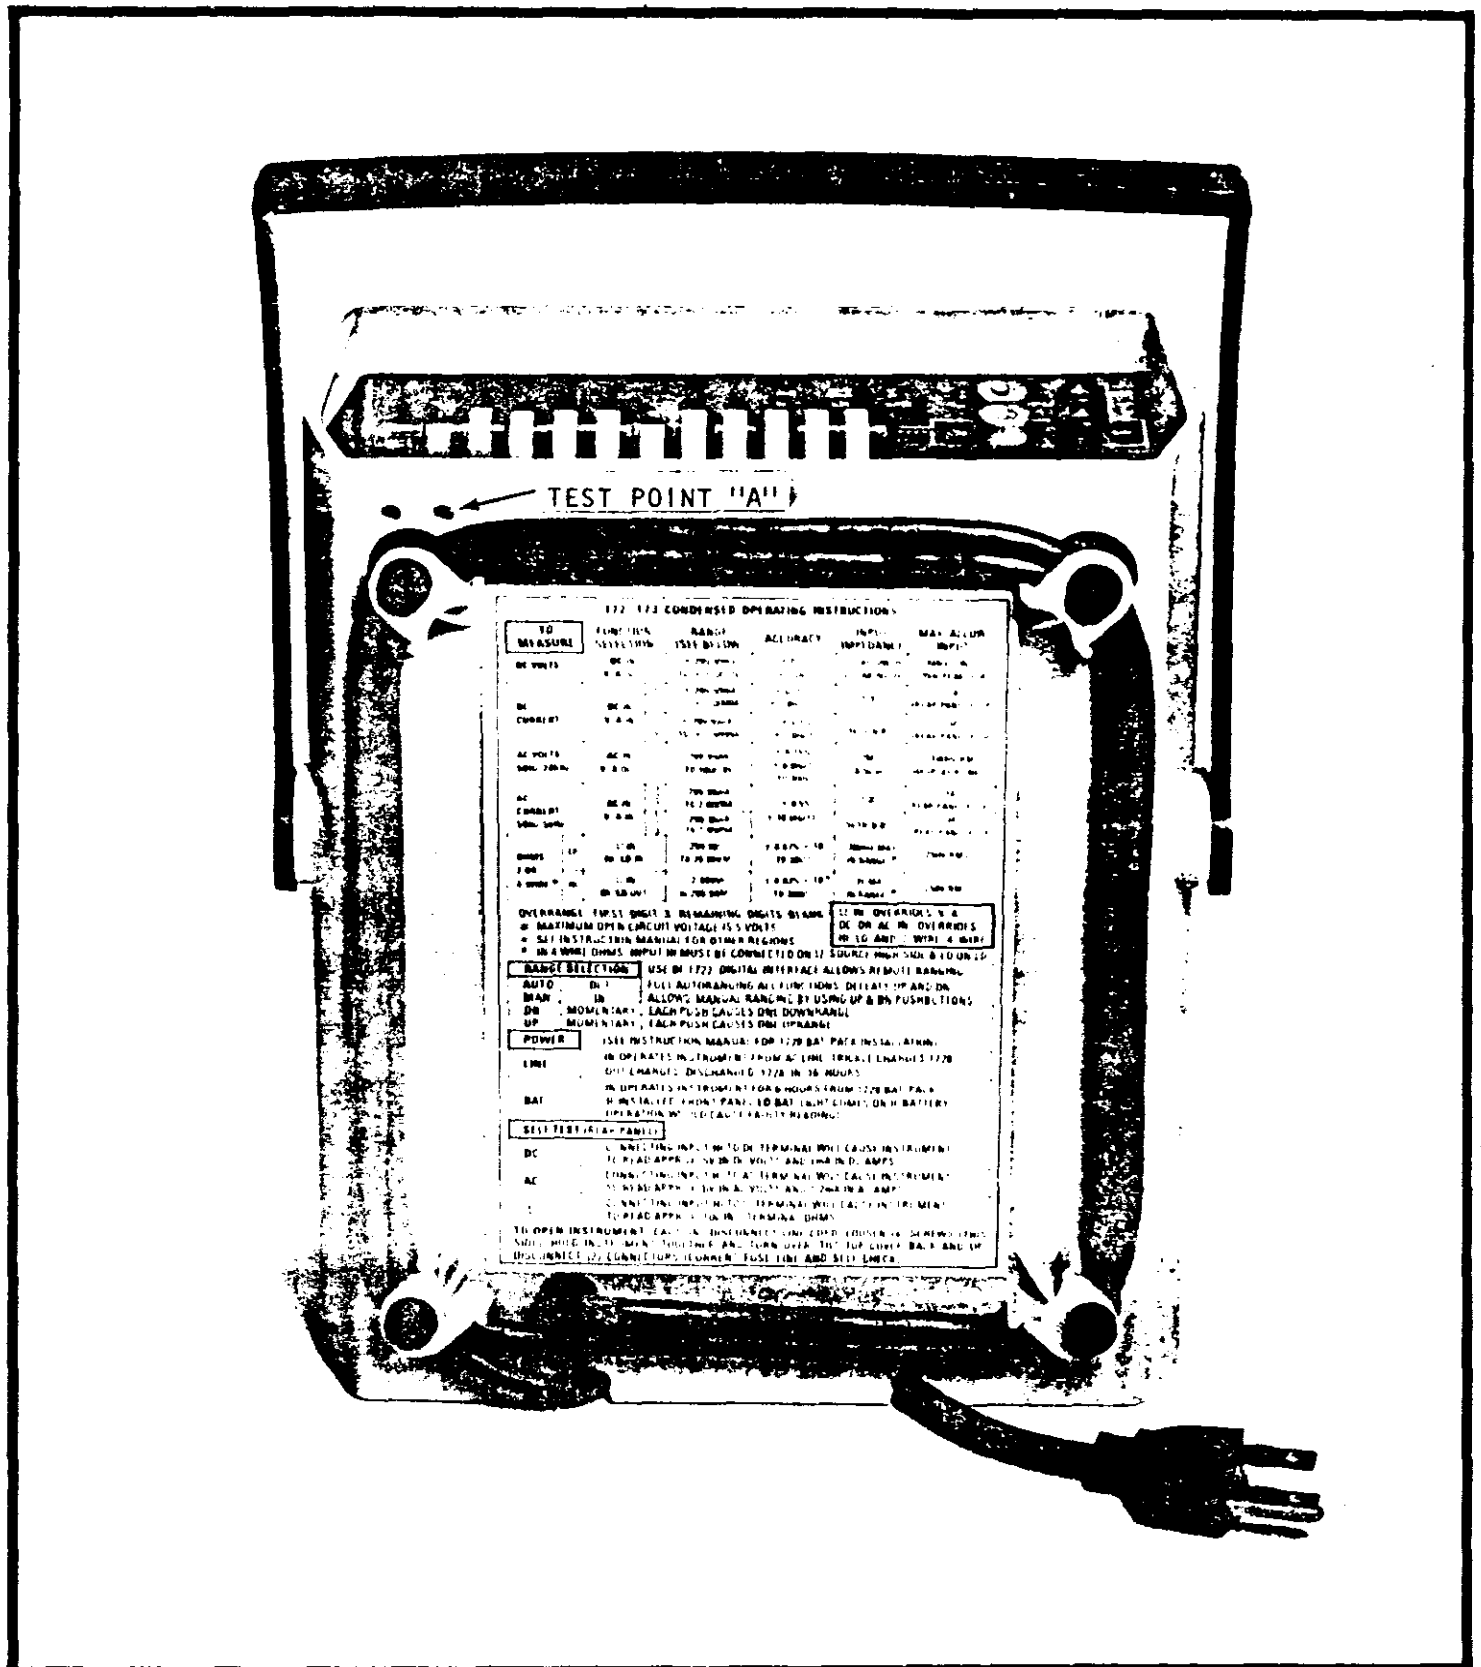
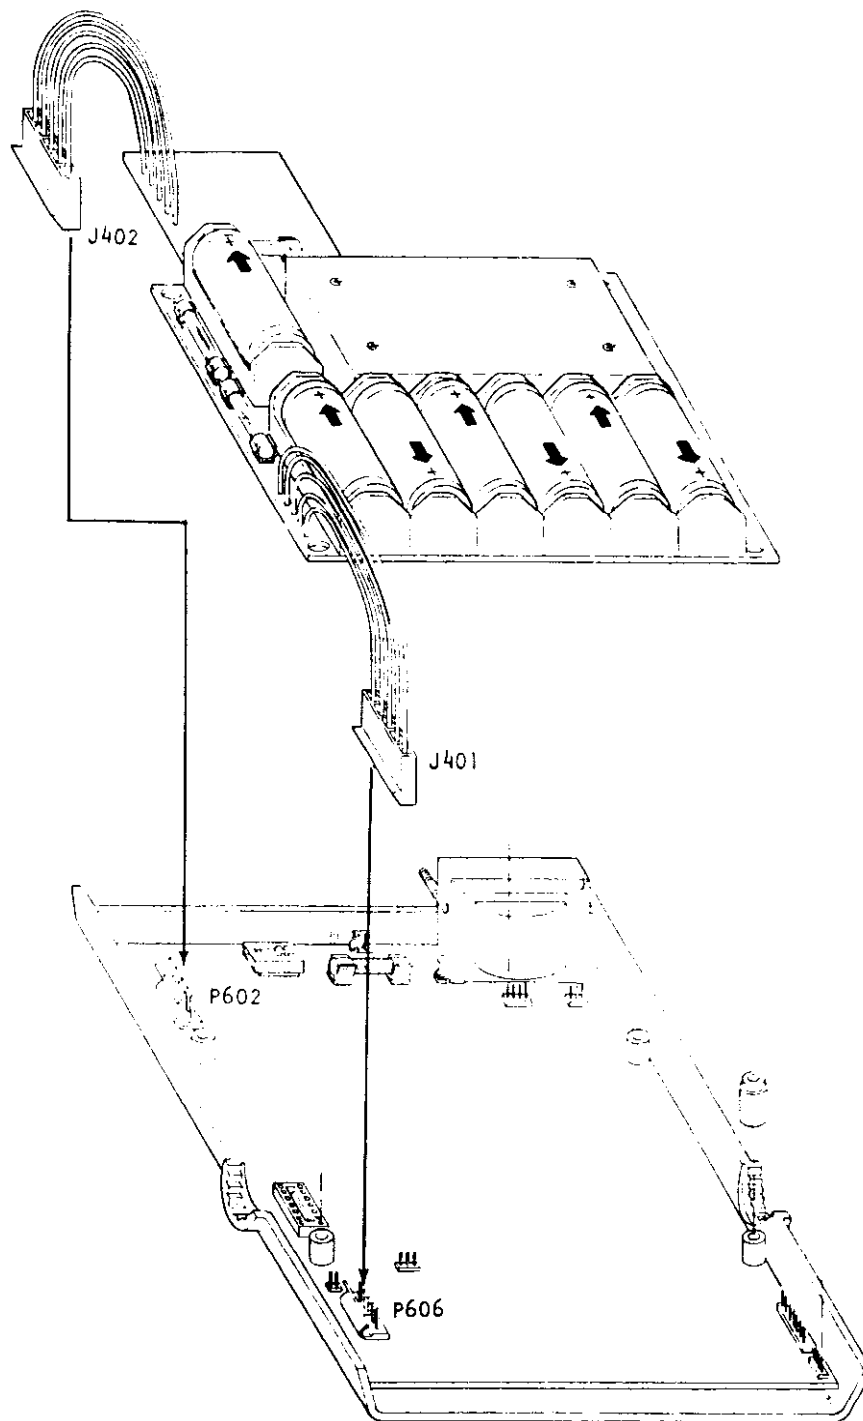

FIGURE 4. Bottom View Showing Line Cord
FIGURE 7. Installation of Battery Pack.
a. Line Power. The Model 172/173 has an attached three-wire line cord which mates with third-wire grounded receptacles (NEMA 5-15P). The permanently installed line cord is stored by wrapping the cord around the base of the instrument as shown in Figure 4.
c) To install the Battery Pack, turn the instrument over so that the bottom cover faces up. Loosen four slotted screws on the bottom cover as shown in Figure 4. The screws are captive, that is they cannot be removed completely. Turn over the instrument with the top cover facing up, taking care to hold the top and bottom covers together. Carefully remove the top cover to gain access to the printed circuit board. There are 2 connections between the top cover and the main circuit board which must be temporarily removed in order to free the top cover. Check to see that the four insulating spacers are in position on the circuit board as shown in Figure 7. Plug the two 5-wire connectors (J401, J402) into the mating receptacles (P602, P606) taking care to orient the connectors as shown. Place the Model 1728 in position on the spacers with the pack oriented as shown in Figure 7. Replace the connectors from the top cover to the circuit board. Replace the top cover. Turn over the instrument with the bottom cover facing up and tighten down the four slotted-head screws.
a) The Model 172/173 has a built-in LO BAT indicator to permit easy determination of battery condition. The Model 172/173 also has an individual test point on the bottom panel usually needed only for troubleshooting purposes (See Figure 4.).